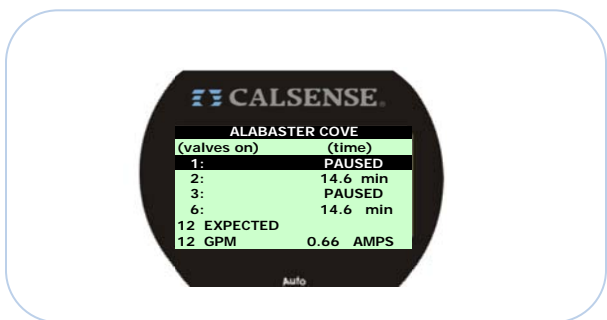

Figure 4.4.2
Note: You can use this method to have up to four (4) station valves **PAUSE** at a time per controller. Figure 4.4.2 shows station 1 and 4 paused while 2 and 6 continue to irrigate 14.6 minutes of a 15.0 minute cycle.
From the **CONTROLLER STATUS** screen (Figure 4.4.2).